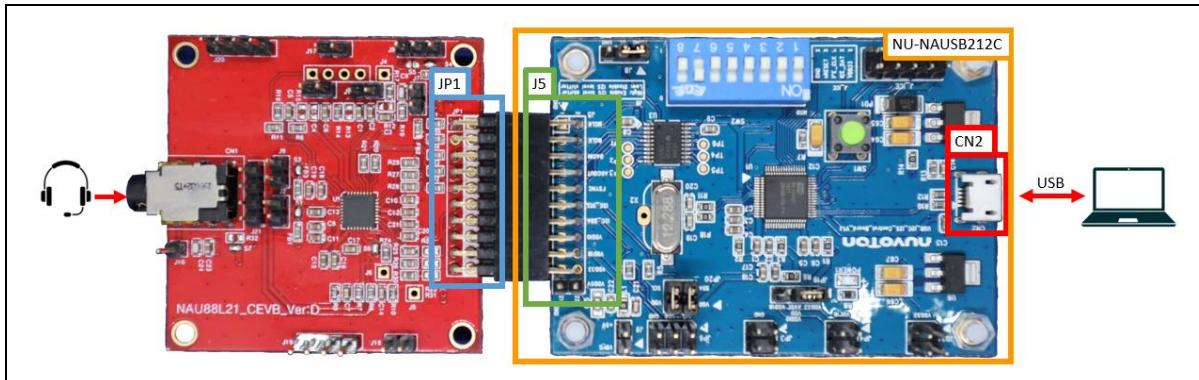

Figure 2-4 NU-NAUSB212C Connection
2. Connect J5 of NU-NAUSB212C to JP1 of NL-NAU88L21. Figure 2-4 is the diagram after two boards are connected to each other.